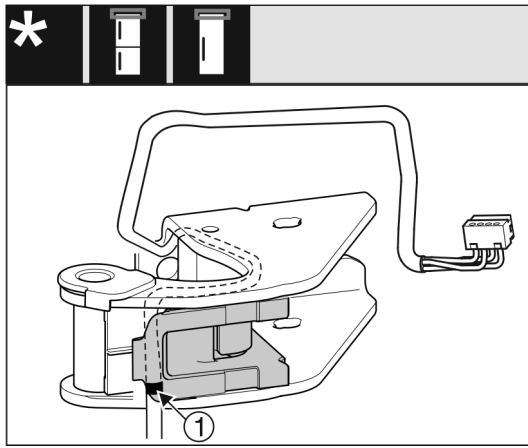

Fig. 29
- Place the middle marking Fig. 29 (1) on the edge of the cable holder.